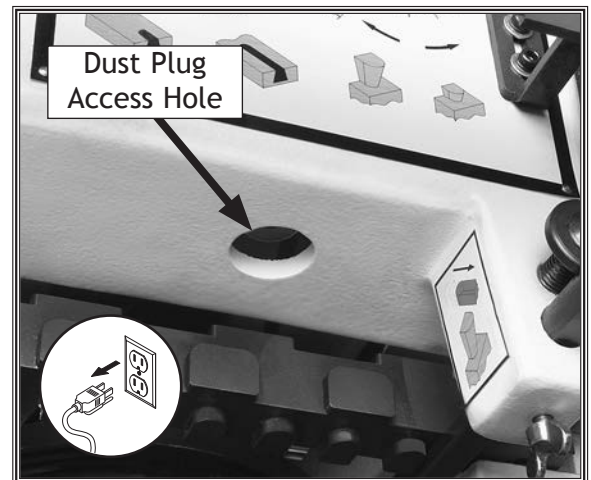

Figure 50. Dust plug removed to see top of cutter spindle for belt removal.
3. Remove the dust plug shown in **Figure 50** to access the top of the belt.